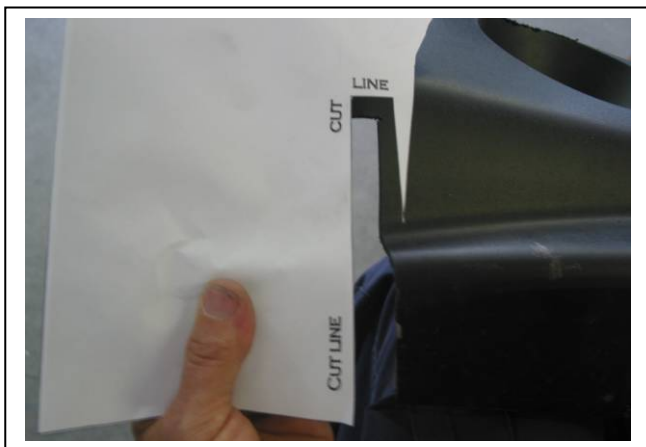

Figure 1: Template placed on bumper
3. Align template with pressed vertical line in front of plastic bumper cover (**See figures 1 and 2**) and lower edge of plastic bumper cover. Mark centre section of cut out onto plastic bumper cover using a marking pen.